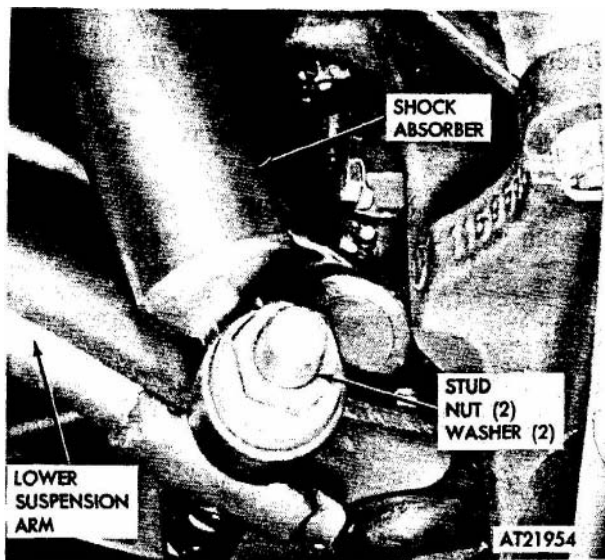

Figure 2-301. Tractor front and carrier shock absorbers (lower), removal and installation.
(1) Turn steering wheel to left or right as required.
(2) Remove lower stud, nuts, and washers securing shock absorbers to lower suspension arm (fig 2-301).
(2) Install lower end of shock absorber to lower suspension arm with stud, two nuts and washers. Torque nuts to 105-145 lbs-ft. (fig 2-301).